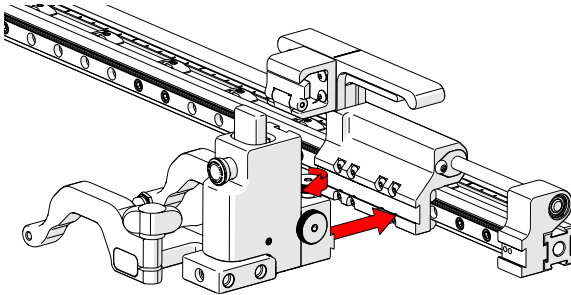

Fig. 47 - Mount probe holder to carrier
1. Loosen the probe holder adjustment knob (Fig. 47) and mount the heavy duty vertical probe holder's dovetail jaw to the carrier.